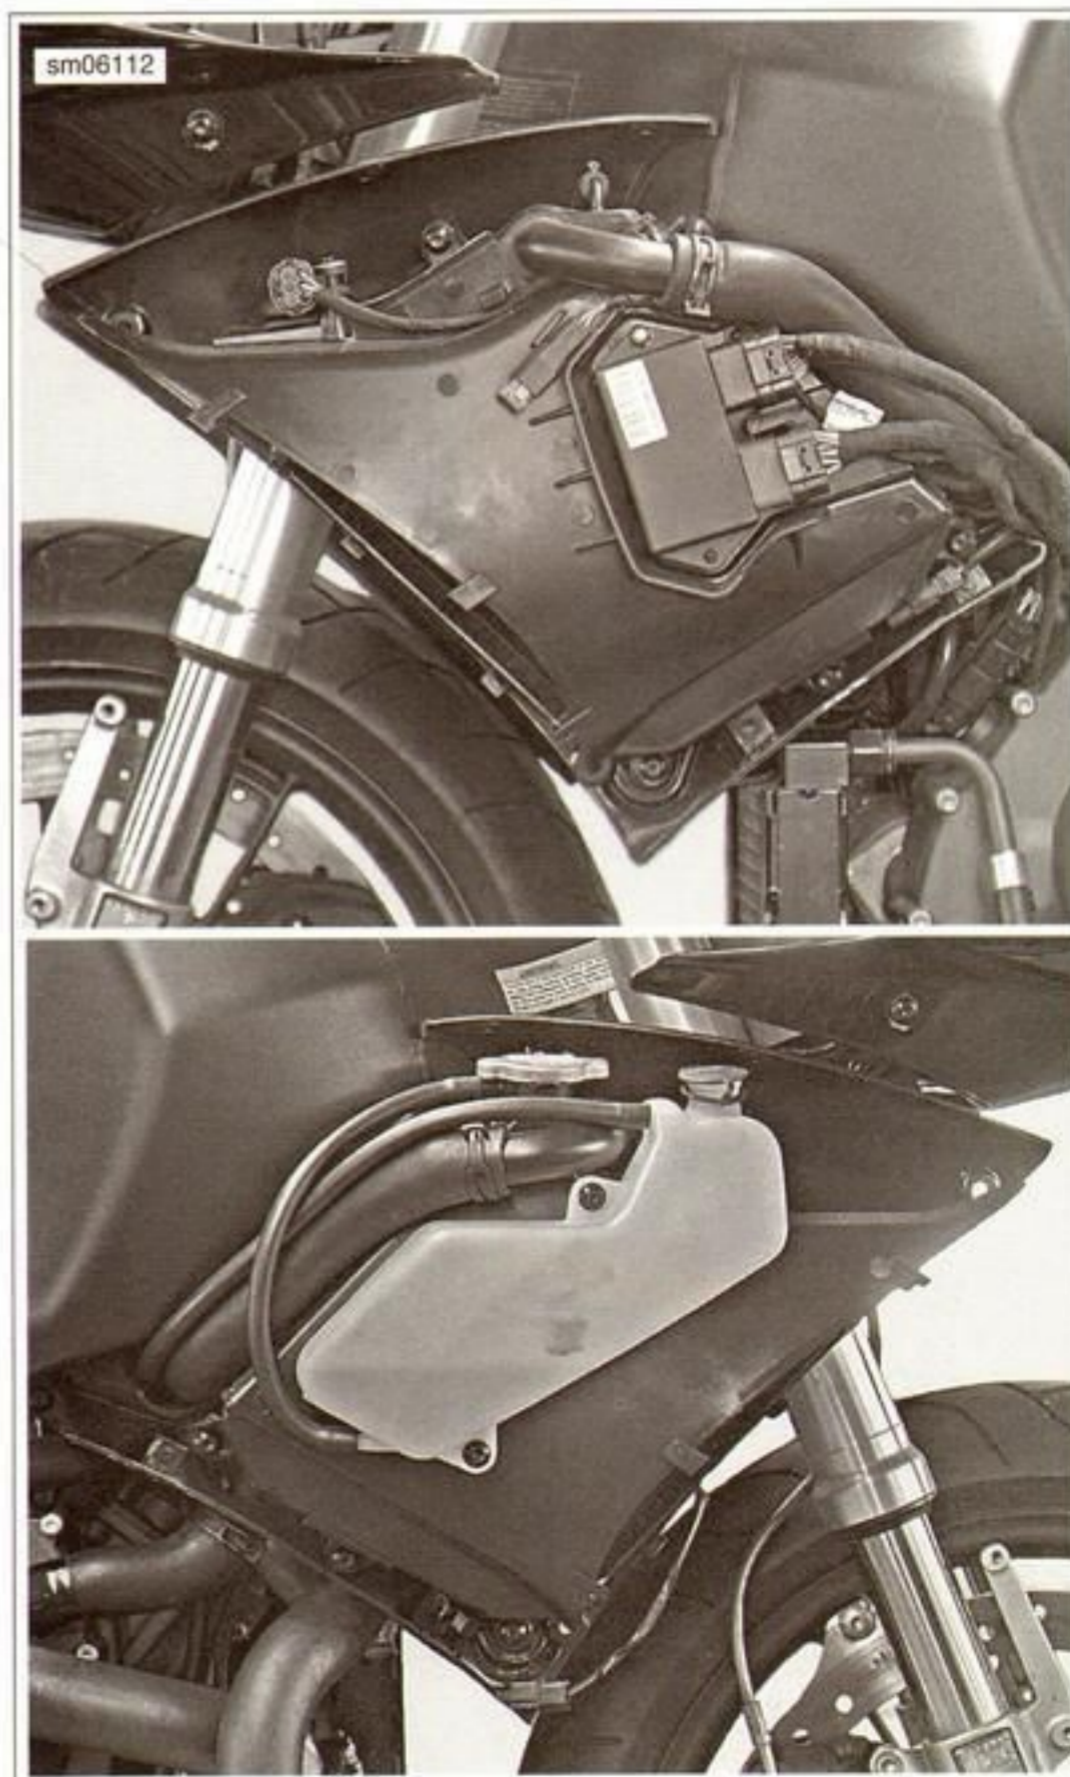

Figure 3-20. Remove Left (top) and Right (bottom) Outer Radiator Shrouds
9. See Figure 3-20. Remove the left and the right outer radiator shrouds.